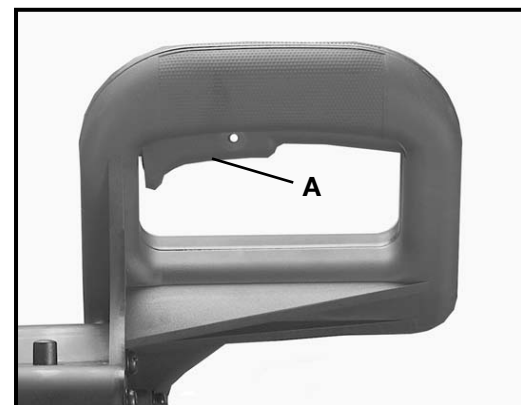

Fig. 10
To start the machine, depress switch trigger (A) Fig. 10. To stop the machine, release the switch trigger.
This saw is equipped with an automatic electric blade brake. As soon as the switch trigger (A) Fig. 10, is released, the electric brake is activated and stops the blade in seconds.